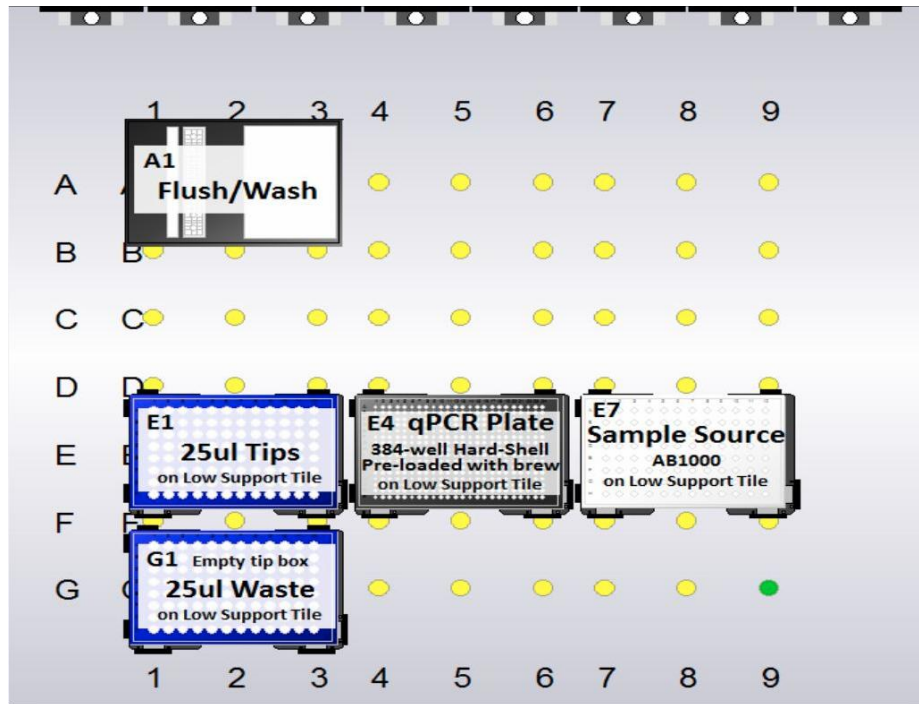

Figure 22: Deck layout
- 4.17. Set up the deck as illustrated in Figure 22. Move the pop up window out of the way if blocking the set up view. **Clicking OK will initiate the run.**